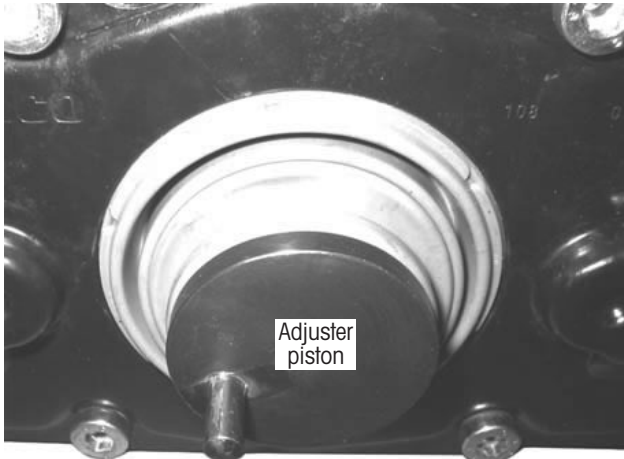

Figure 78: Properly installed adjuster piston boot
5. **Ensure** the adjuster piston boot is correctly seated in the brake caliper and the exposed edge of the adjuster piston boot (Figure 78) is wrinkle-free (Figure 28 on page 17).